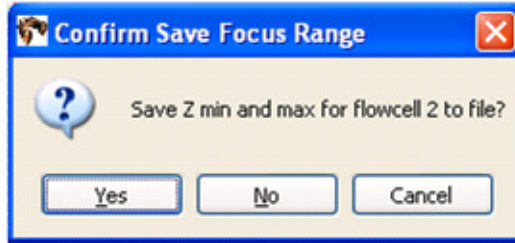

Figure 89 Click **Yes** when the Save Focus Range Warning displays.
11. Click **Yes** when the warning displays (see Figure 89 on page 114).